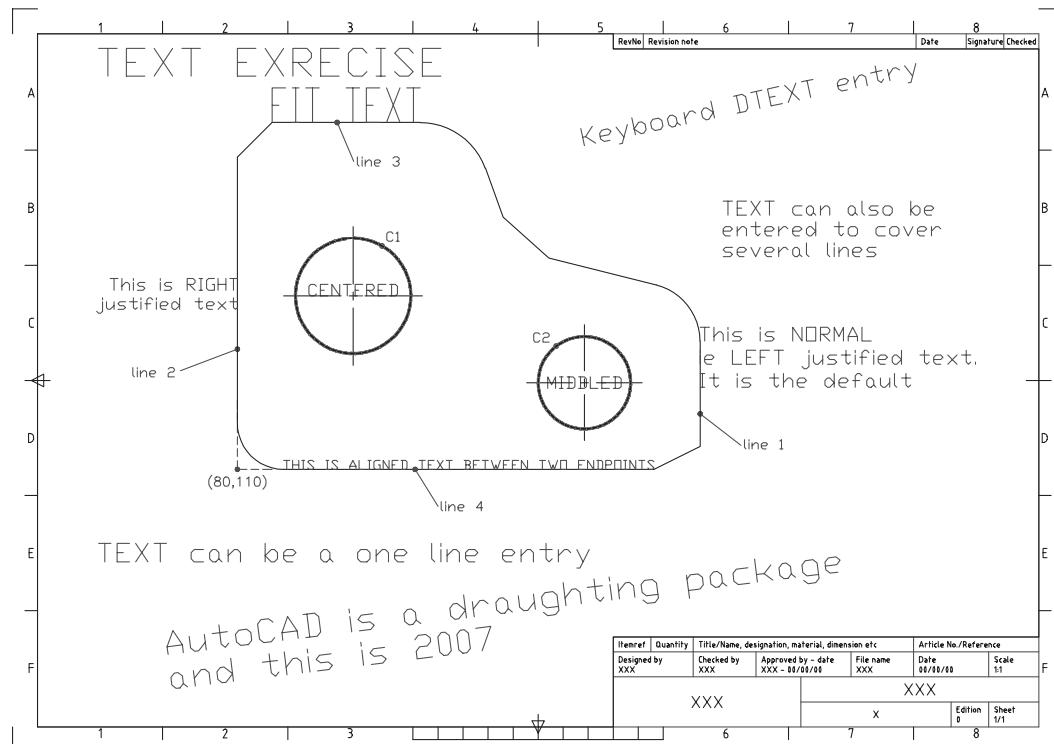

Figure 13.1 Adding text to WORKDRG.
- 1 Open your WORKDRG saved drawing and refer to Figure 13.1.